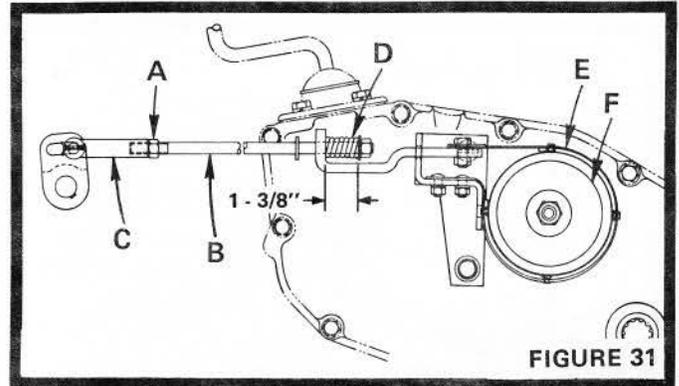

FIGURE 31
- Loosen Jam Nut (A) on Brake Rod (B) at Clevis (C) (Fig. 31).
- Rotate Brake Rod (B) counterclockwise until the Brake Band Assembly (E) is clear of the Brake Drum (F) (Fig. 31).
- Rotate Brake Rod (B) clockwise until Spring (D) is compressed to 1 - 3/8" (Fig. 31).
- Tighten Jam Nut (A) on Brake Rod (B) at Clevis (C) (Fig. 31).